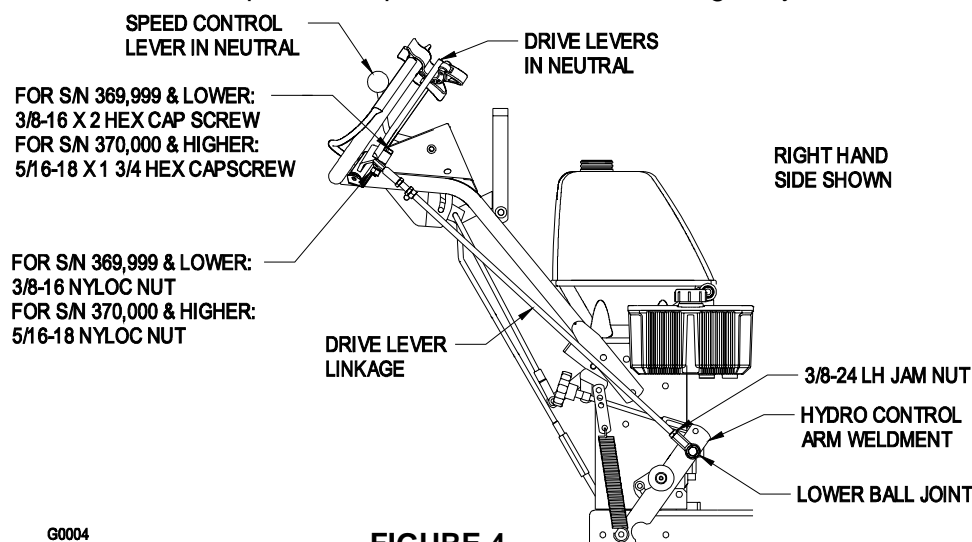
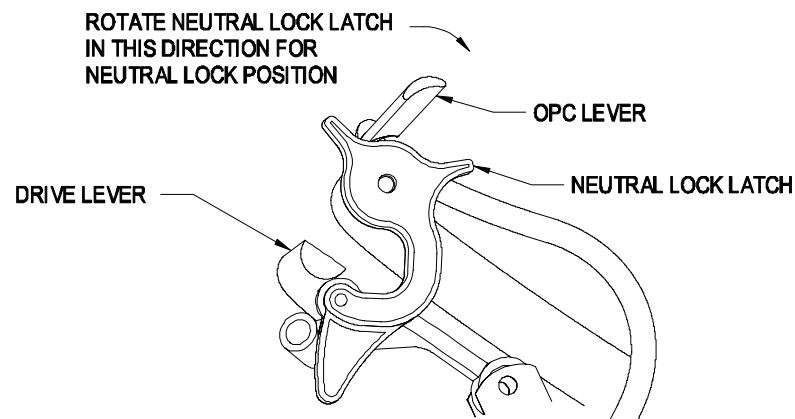

FIGURE 4
FIGURE 5
- 3.13 Install drive lever linkages (See Figure 4). Position the speed control lever in neutral. Position the drive levers in neutral and engage the neutral lock latches (See Figure 5 (b)). Drive lever linkages are shipped with upper ball joints installed. Thread a 3/8-24 LH jam nut, from the bolt bag, onto the lower end of each drive lever linkage. Identify the lower ball joints installed on hydro control arm weldments. Thread lower end of each drive lever linkage into the lower ball joint until hole in upper ball joint aligns with hole in drive lever.
- 4.1.2 Operator Presence Control (OPC) Levers: Located on the upper handle assembly directly above the handle grips. See Figure 5. **When these levers are depressed, the OPC system senses that the operator is in the normal operator's position. When the levers are released, the OPC system senses that the operator has moved from the normal operating position** and will kill the engine if either the speed control lever is **not in the neutral** position or the **PTO is engaged**.
- 4.1.4 Drive Levers: Located on each side of the upper handle assembly directly below the handle grips (See Figure 5). These levers individually control the speed and direction of each drive wheel. When the speed control lever is moved out of the neutral position and the neutral lock latches are moved into the drive position, as shown in Figure 5, and the drive levers are released, the drive wheels are engaged in the forward direction.
- 4.1.5 **Neutral Lock Latch:** Located at the end of the handles. The purpose of these latches is to allow the operator to lock the drive levers in a "neutral" position where neither of the drive wheels are engaged in either a forward or reverse direction (See Figure 5).